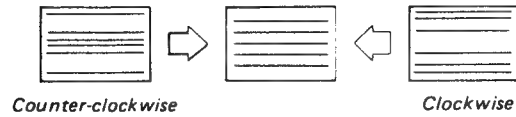

Fig. 29-3
- Adjust V. LIN GAIN by turning DA board RV22 as shown in Fig. 29-3.